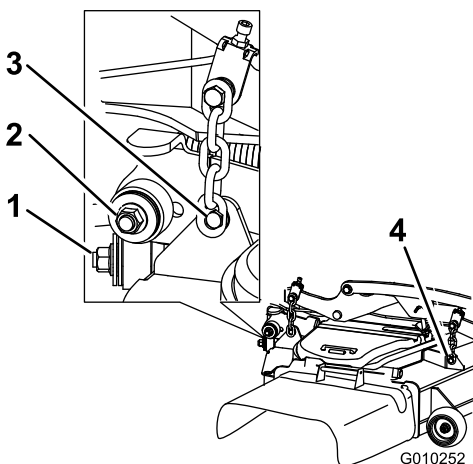

Figure 100
7. Remove and retain the hardware on both sides of the deck (Figure 100).